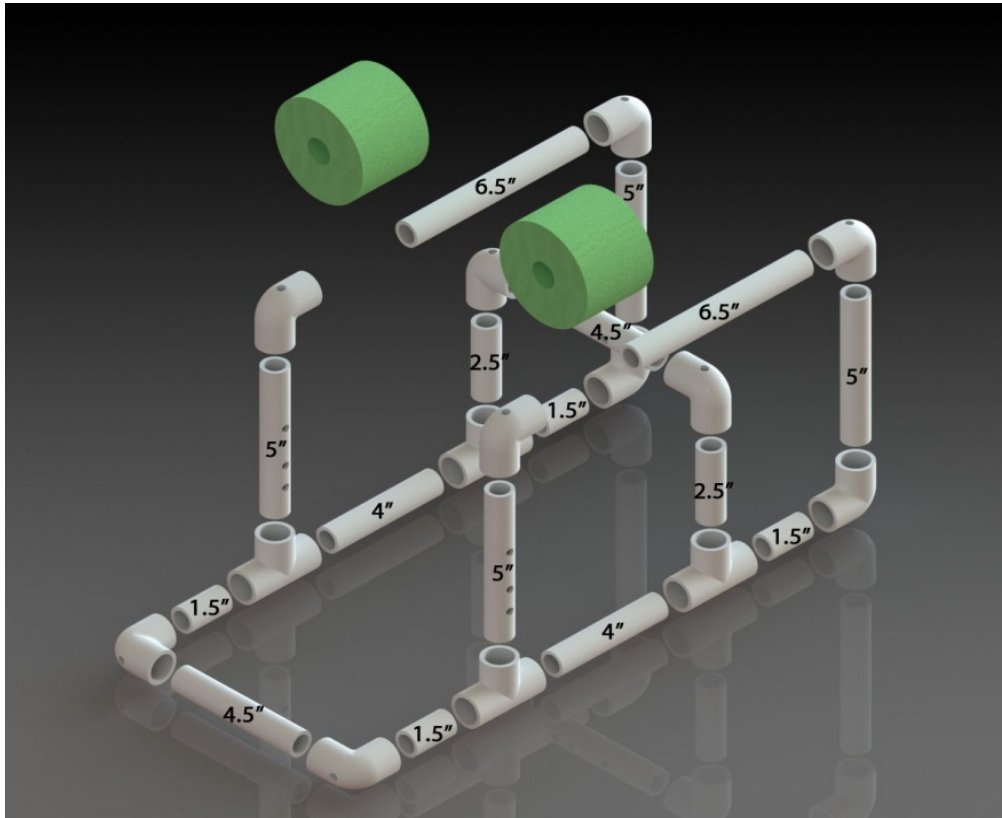

Figure 1.3-1: Initial Frame Assembly
1. Assemble the frame using the PVC parts as shown in Figure 1.3-1. No glue is used for any of the connections. Orient the elbows that are near the top of the vehicle with their holes pointing upward, to let air escape when the SEAPERCH is placed in the water. Orient those at the bottom with their holes pointing downward or to the side, to let the water flood in and out easily.